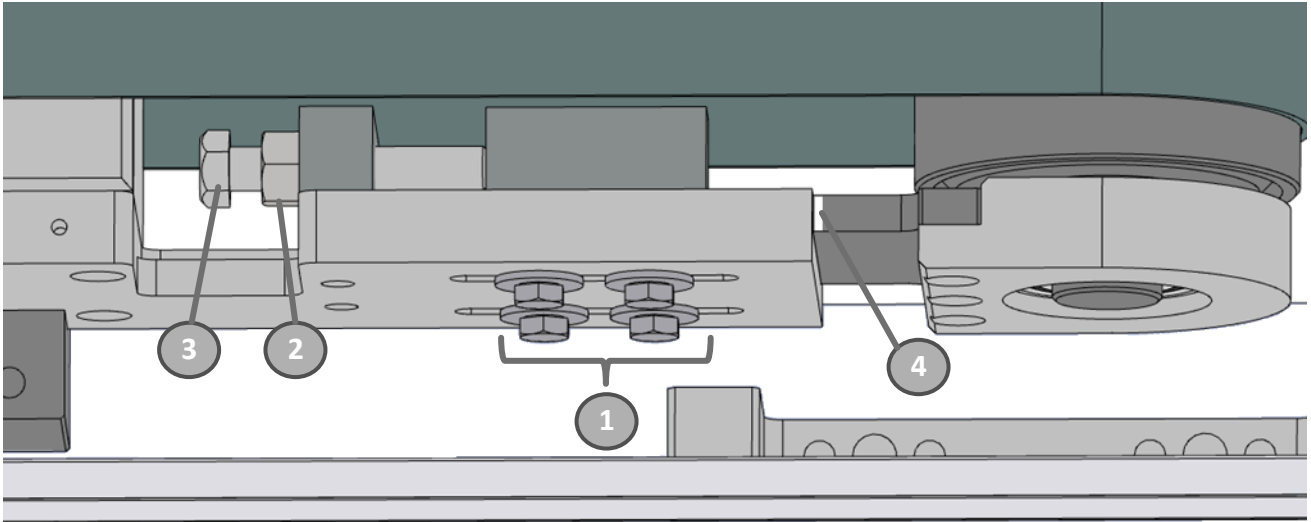

Figure 8-5
Note: To be able to reposition the pull roller in the same position, make a mark (4) on the plate (if not already present) as shown in figure 8-5.
- Tighten the adjustment screws (3) Figure 8-5 from both sides of the roller until the mark (4) reappears.
- Check that the tension of the new belt is correct, then tighten the 4 bolts (1) and the lock nut (2) Figure 8-5 on both sides of the roller.